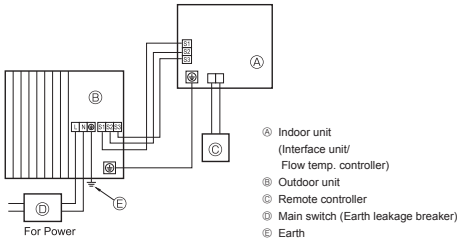
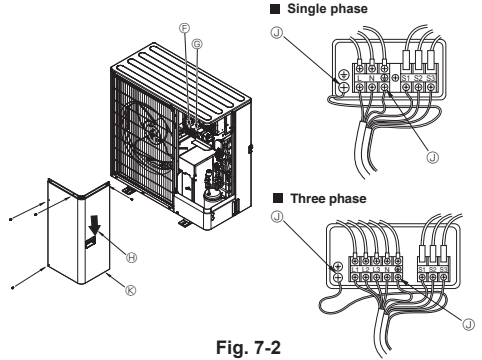

Fig. 7-1
Fig. 7-2
7.1. Outdoor unit (Fig. 7-1, Fig. 7-2)
- ① Remove the service panel.
- ② Wire the cables referring to the Fig. 7-1 and the Fig. 7-2.